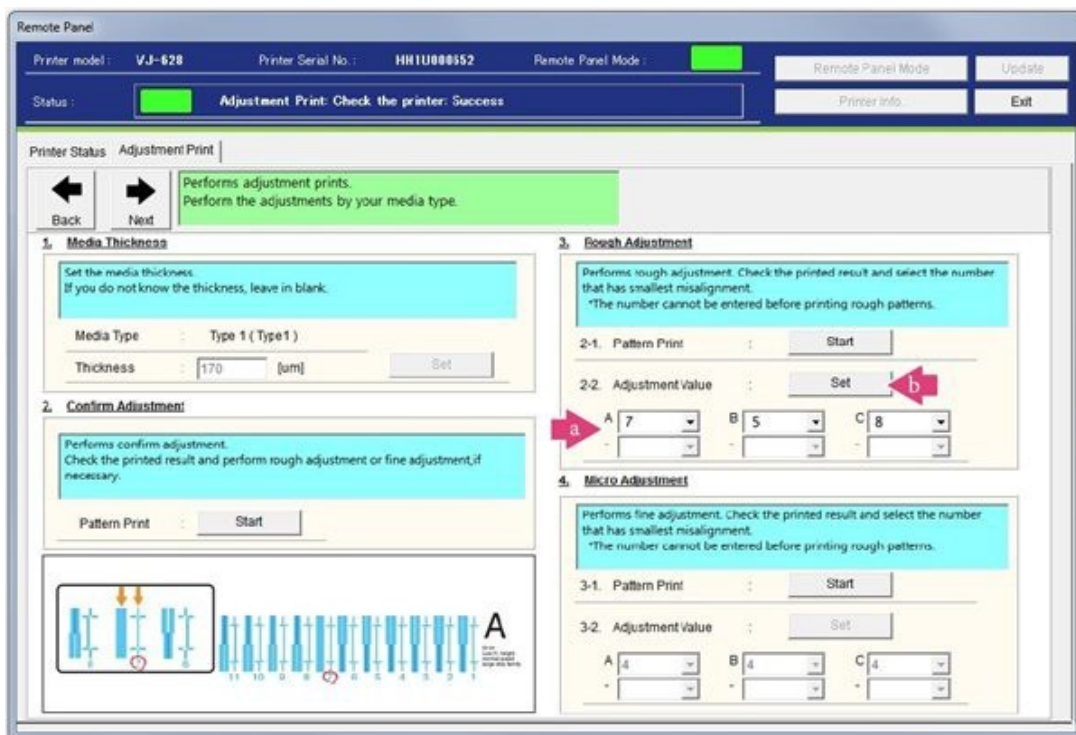

Figure 85
72. When you have determined the best numerical choice to use for each pattern group. Enter the numerical values into the **Adjustment Value** boxes (a) and select **Set** (b). The new values are now entered. See Figure 85.